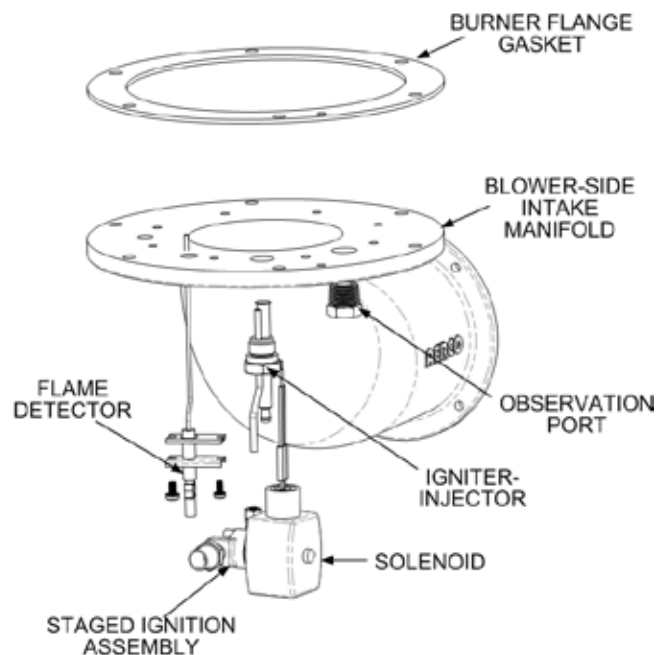
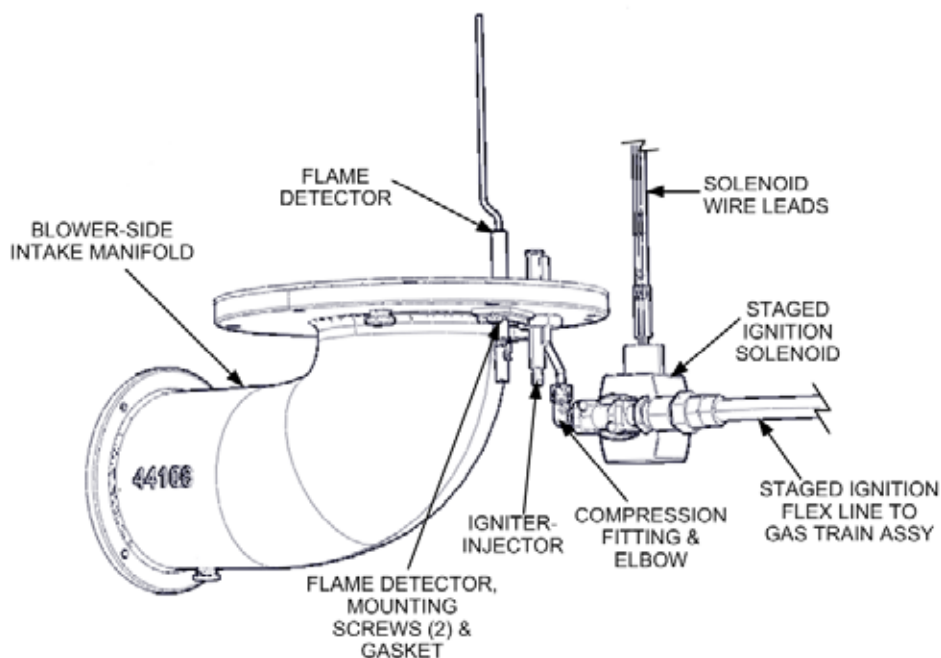

Figure 6-1. Blower-Side Intake Manifold (Shown Removed from Heater)
Figure 6-2. Igniter-Injector & Flame Detector Mounting Details
The igniter-injector (part no. 58023) is located on the flange of the blower-side intake manifold located at the bottom of the unit's heat exchanger. In addition to providing the ignition spark required to light the burner, the igniter-injector also contains a gas injector tube which connects to the staged ignition assembly. Figure 6-1 shows the blower-side intake manifold removed from the heater and indicates the locations of the igniter-injector, flame detector and other related components.
3. Disconnect the cable from the igniter-injector (Figure 6-1).
4. Refer to the partial exploded view in Figure 6-1 and Figure 6-2. Using a 7/16" open-end wrench, disconnect the compression nut securing the gas injector tube of the igniter-injector to the elbow of the staged ignition solenoid assembly. Disconnect the staged ignition assembly from the igniter-injector.
The flame detector (part no. 66018) is also located on the flange of the blower-side intake manifold as shown in Figures 6-1 and 6-2. The flame detector may be hot. Allow the unit to cool sufficiently before removing the flame detector.
4. Remove the two (2) screws securing the flame detector to the intake manifold (Figures 6-1 and 6-2). The flame detector is secured to the burner intake manifold with one (1) #10-32 screw and one (1) #8-32 screw.
3. Refer to Figures 6-2 and 6-3 to locate the blower-side intake manifold (part no. 44106) at the bottom of the unit's heat exchanger.
4. Disconnect the lead wire from the flame detector installed on the intake manifold flange (Figure 6-2).
5. Remove the two (2) screws securing the flame detector to the blower-side intake manifold (24234). The flame detector is secured to the manifold with one (1) #10-32 screw and one (1) #8-32 screw.
8. Using a 7/16" open-end wrench, disconnect the compression nut securing the gas injector tube of the igniter-injector to the elbow of the staged ignition assembly (see Figure 6-2). Disconnect the staged ignition assembly from the igniter-injector.